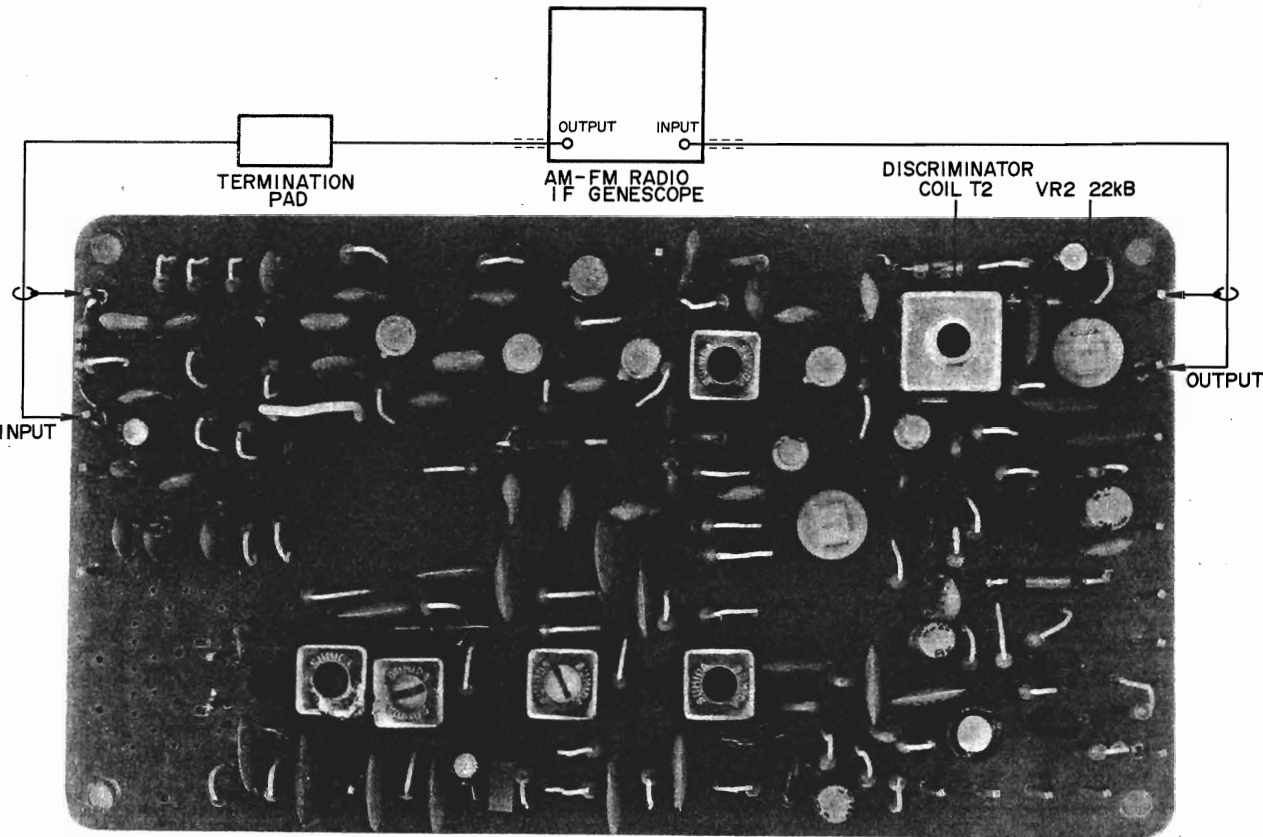

Fig. 3 INSTRUMENT CONNECTIONS
- 1) Connect the lead wires from an AM-FM Radio IF GENESCOPE (hereinafter referred to as GENESCOPE) to the input as well as the output of the FM-AM IF P.C. Board as shown in Fig. 3.